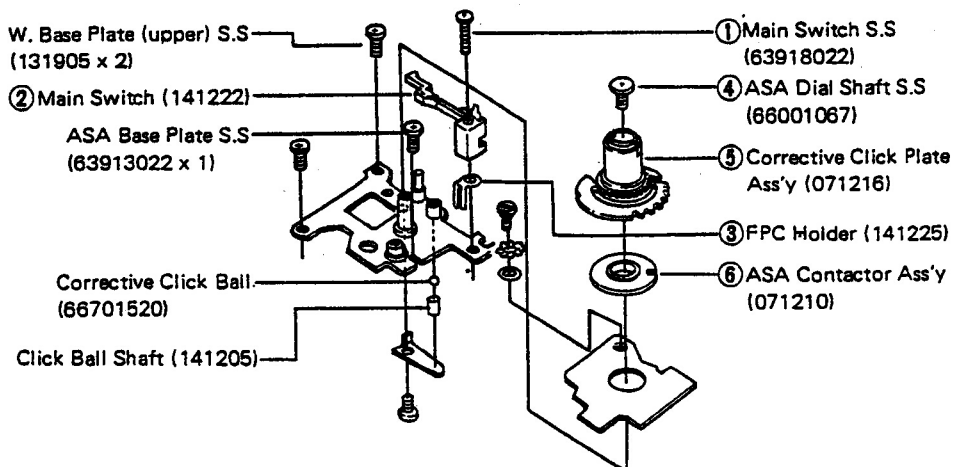

Fig. 56
h) Remove the respective parts ① ~ ⑥ shown in (fig. 56) in numerical order.
- j) Remove the Winding Base Plate (upper) S.S. (131905 x 2) and ASA Base Plate S.S. (63913022 x 1). See (fig. 56)